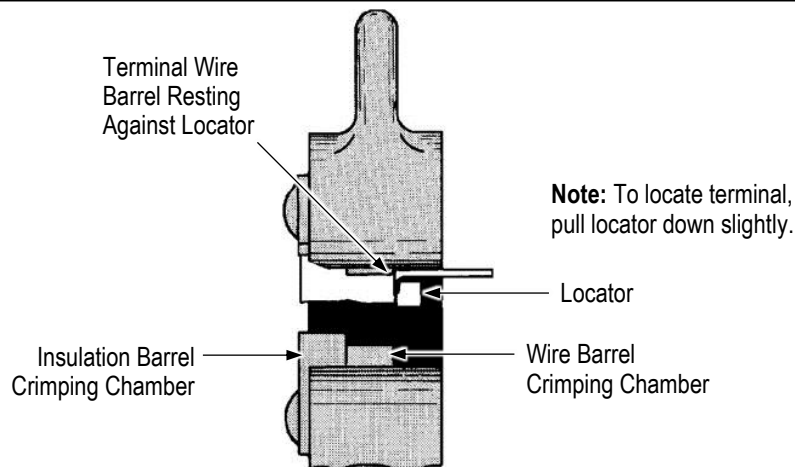

Figure 3
2. Place the terminal in the stationary die as shown in Figure 3, then close the tool handles until the terminal is held firmly in place.
- Position the terminal in the dies as shown in Figure 3, then close the tool handles until the dies bottom.